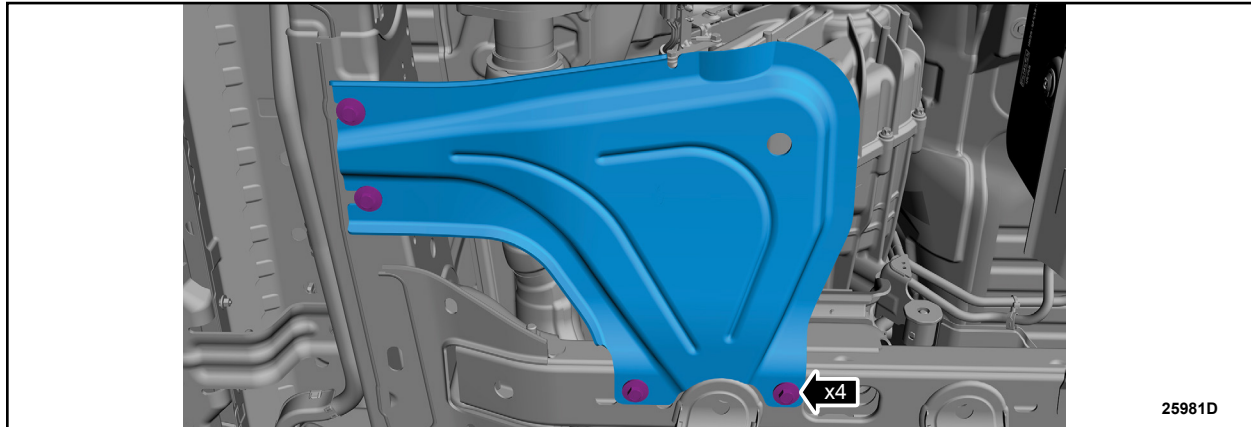

FIGURE 1
2. If equipped, remove the skid plate bolts and the skid plate. See Figure 1.